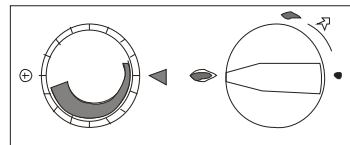

Figure 8- Main Burner Operational, but gas flow off
2. Turn the IGNITION KNOB anticlockwise to the main flame position as shown in Figure 8 .